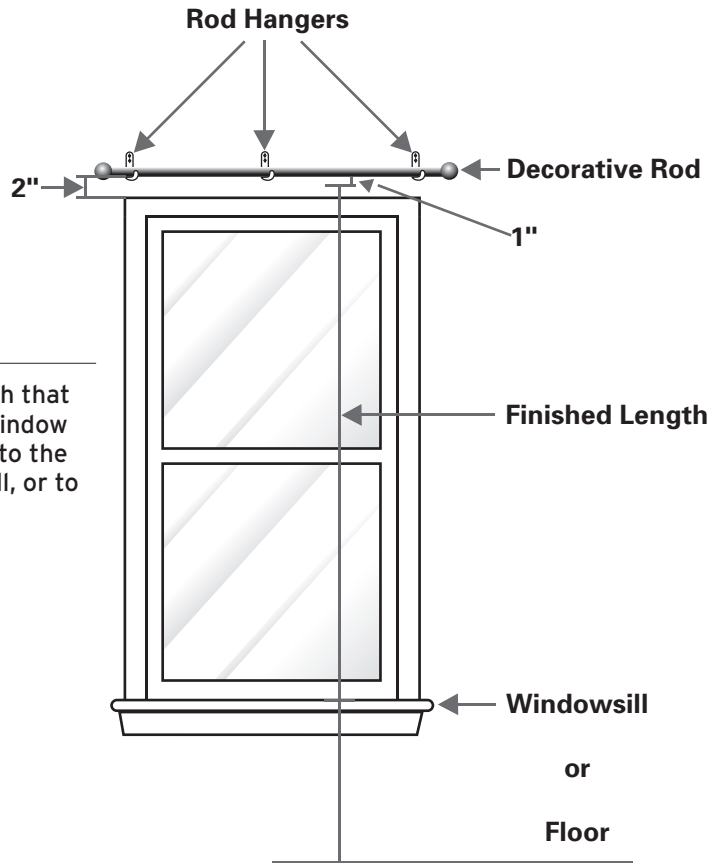

Fig. 16-2
- Decide how long you want the panels to be—they can stop at or below the window sill or hang to the floor. Measure from 1 inch (2.5 cm) below the rod to the desired length of the finished panel. Write this measurement down—this is the *panel finished length*. Add 1 inch (2.5 cm) to this measurement to calculate the *panel cut length*. (Fig. 16-2)